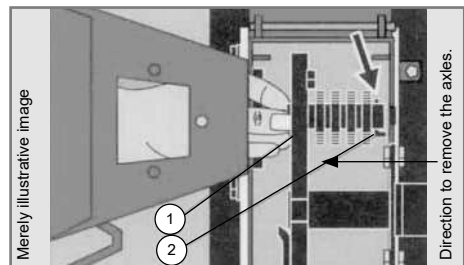

Fig. 12
To change position of hammers or to substitute them, remove the axle (1) counterpins and the lock (2) (figure 12). Remove them through the opening in the green crop feeder. When removing them, to avoid unbalance and vibration of the shredder, always observe the position of the separating rings. Be careful not to mix the hammer sets (sides). Replace or change the mobile hammer side on a stepwise way; after completing an axle, proceed to the following one: